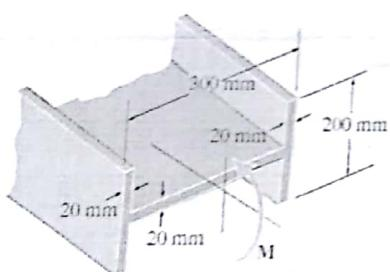

Fig. 2
2. If the beam is subjected to a bending moment of  $M = 20 \text{ kNm}$ , determine the maximum bending stress in the beam. (Fig. 2).